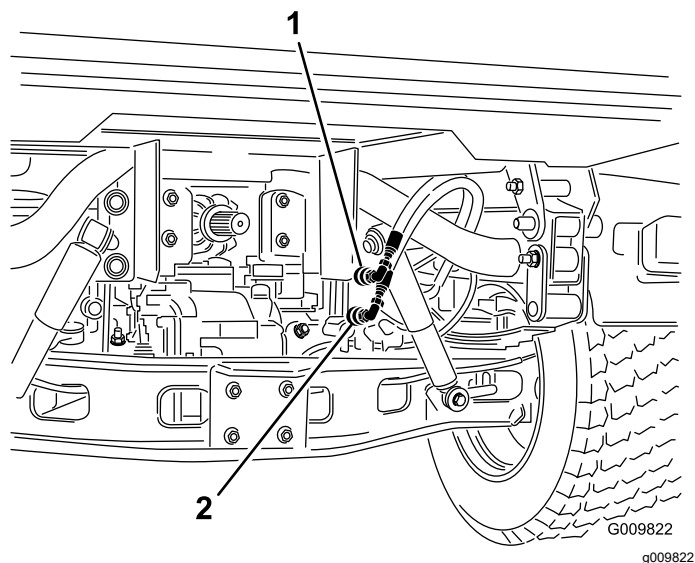

Figure 75
- On both machine, disconnect the 2 quick-coupler hoses from the hoses secured to the coupler bracket (Figure 75).